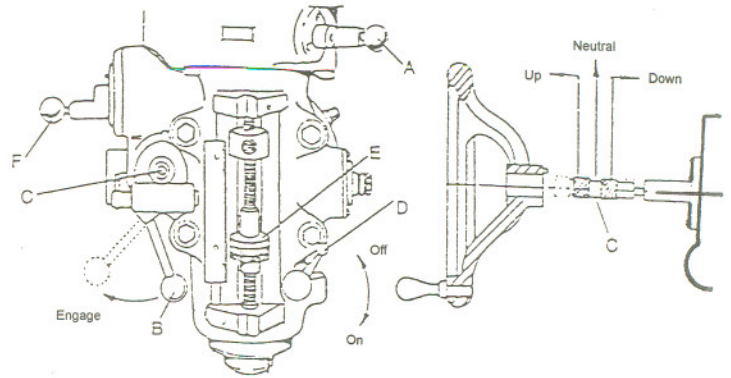

Fig. 8
1. Ensure quill lock (D, Fig. 8) is off by rotating counter-clockwise.
2. Set micrometer dial (E, Fig. 8) to desired depth.
3. Engage auto quill feed lever (A, Fig. 8) by pulling out lock knob and moving lever to the left hole.
4. Select feed rate (F, Fig. 8).
5. Select feed direction (C, Fig. 8)
6. Engage feed trip lever (B, Fig. 8) by pulling away from head assembly.